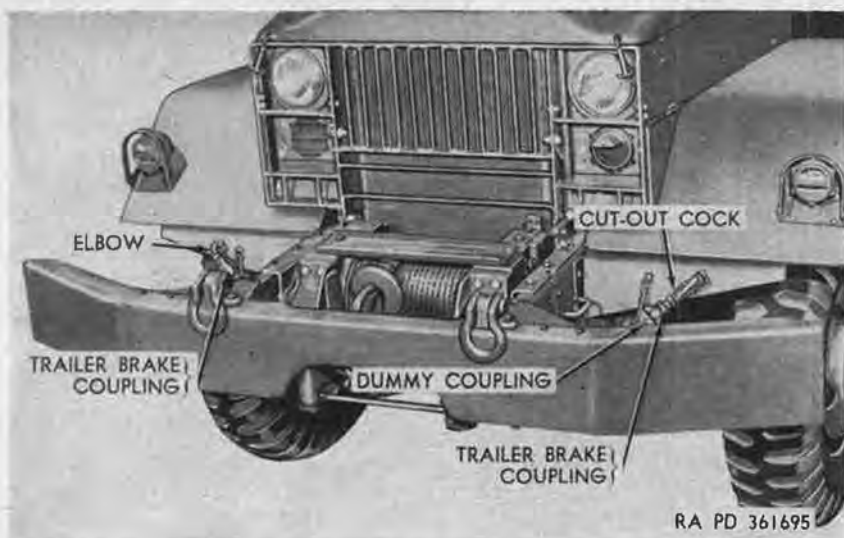

Figure 254. Trailer brake couplings installed at front of vehicle.
a. Removal. To remove the trailer brake couplings (fig. 254), close the cutout cock, if necessary, at the coupling to be removed.